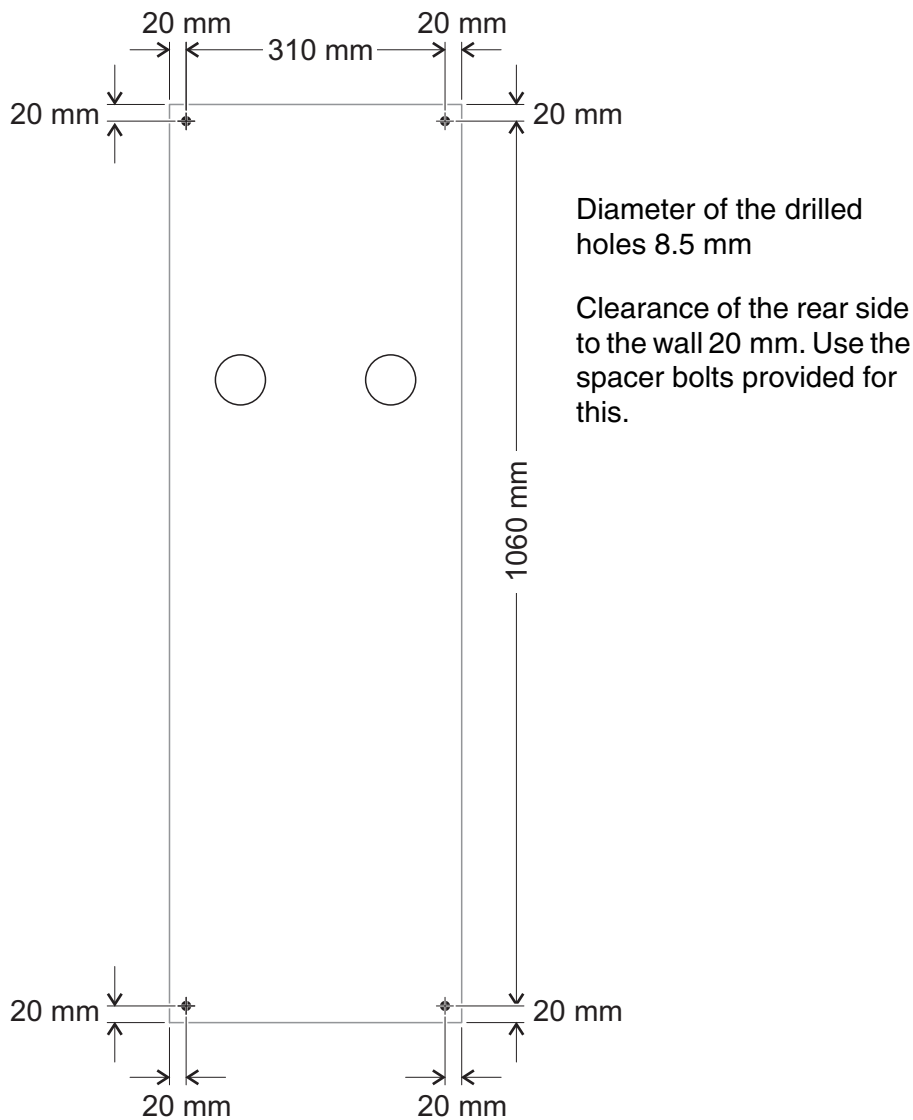

Fig. 3-1 Drilled hole distance for the drinking water panel (dimensions in mm)
**Mounting** Through four drillings in the panel, diameter 8.5 mm, drilled hole diagram, see Fig. 3-1.